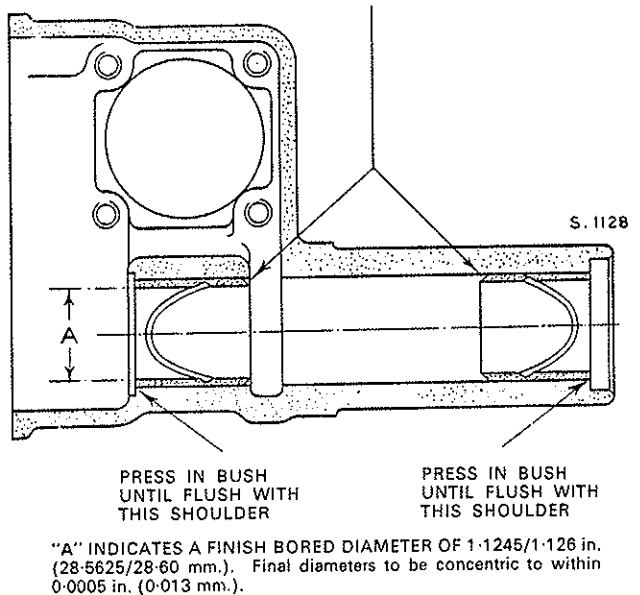

Fig. J.5. Steering casing bush dimensions
- (a) Press in the new bushes to the dimensions given ensuring that the chamfered ends are always in the centre of the rocker shaft bore. (See Fig. J.5).